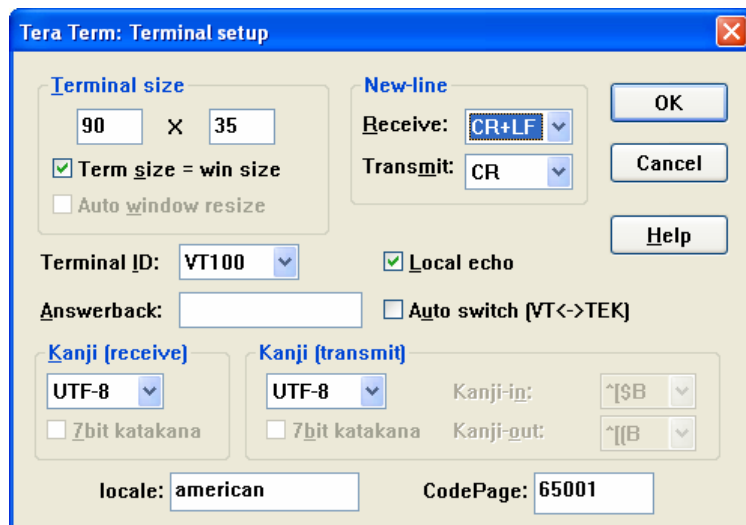

Figure 6-28: Terminal Setup Screen
22. Select these terminal properties, then click **O**K (Figure 6-28).